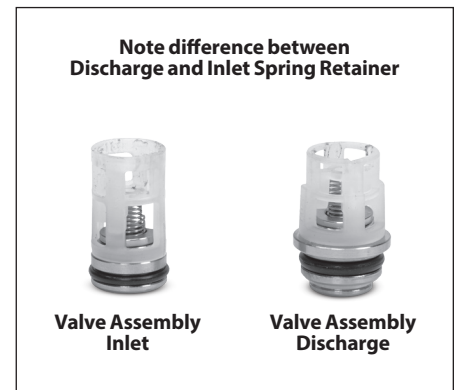

Figure 3
4. Separate discharge valve assembly (top) from inlet valve assembly (bottom) (See Figure 3).